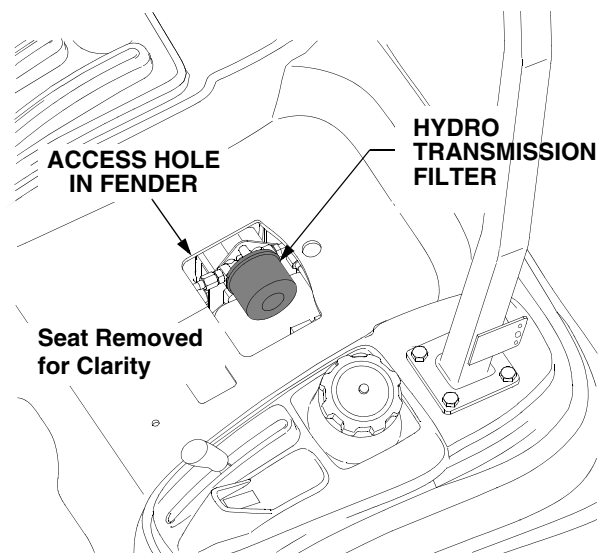

Figure 42
- Through the access hole in the rear fender, clean the area around the hydro transmission oil filter to prevent debris from entering the hydraulic system. Refer to Figure 42.
- Stuff shop rags underneath the hydro transmission filter to absorb any lost oil when the filter is removed. See Figure 42.